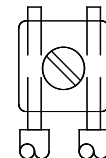

Figure 2: Wire Connection
- Break all in-out wire runs on supervised circuits to assure integrity of circuit supervision as shown in Figure 2. The polarity shown in the wiring diagrams is for operation of the appliances.